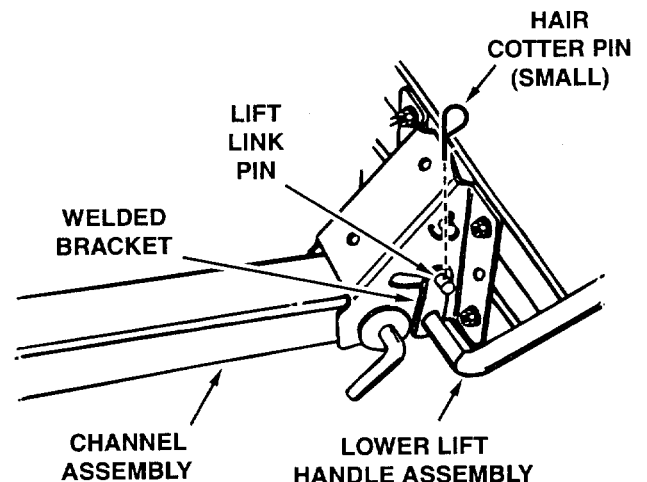

Figure 6
9. Insert the end of the lower lift handle assembly through the notch in the pivot support bracket and through the holes in the channel assembly. Align the lift link pin with the hole in the welded bracket on the lower lift handle assembly. Insert the lift link pin through the hole in the bracket and secure it with a small hair cotter pin. See figure 6.